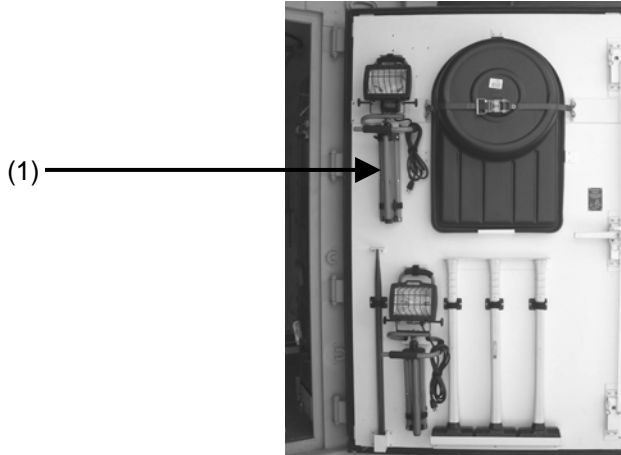

Figure 2-20. View of inside of personnel door.
1. Remove area lights (1) from storage location inside container on inside of personnel door (Fig. 2-20).